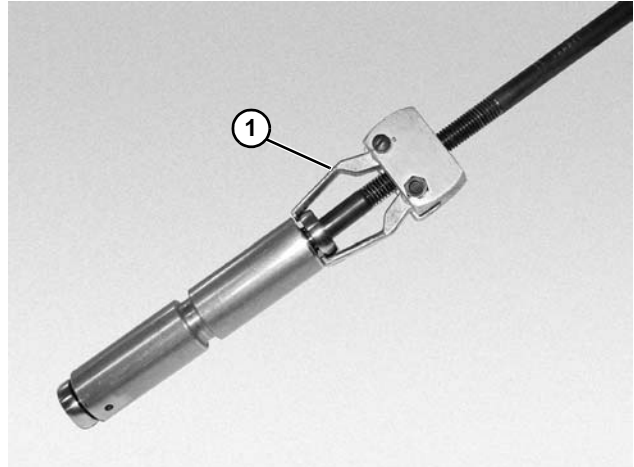
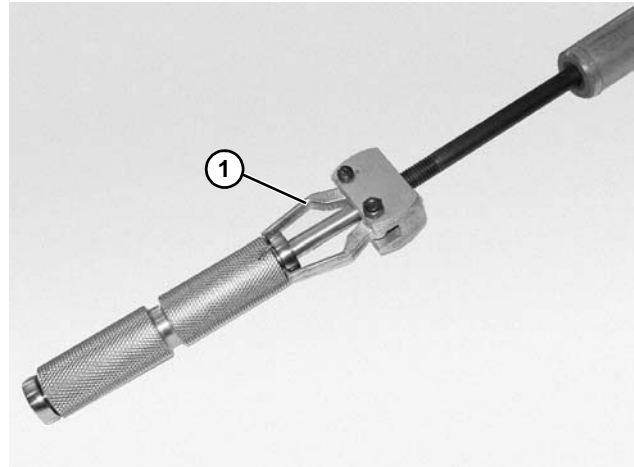

Figure 55
Figure 56
1. Use a bearing removal tool, (**Figure 55, item 1**), (**Figure 56, item 1**), part number 807-1078, or equivalent and remove both bearings from the idler spindle and the drive spindle.